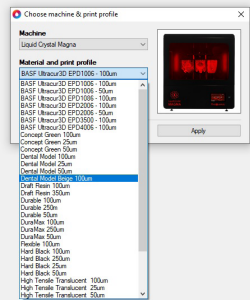

Figure 5
- Select 'Liquid Crystal Magna' and 'Dental Model Beige 100um' (figure 5).